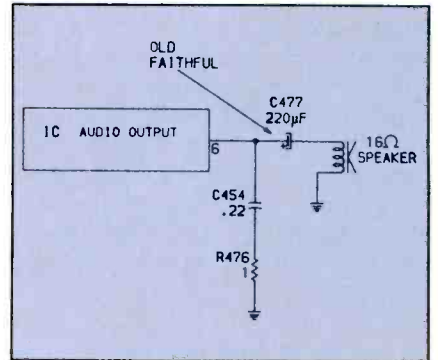

Figure 10. Use of an external speaker in series with a 50μF capacitor clipped across the speaker leads may reveal a defective coupling capacitor.
The audio signal may be traced with the external audio amp or speaker. Another permanent-magnet (PM) speaker with a 50µF capacitor soldered to it may be used as the sound indicator. Any type of PM speaker may be used here as the impedance and size is not important for the purpose of this test. Clip one speaker lead to chassis ground and touch the other end of the capacitor to the IC audio output pin (Figure 10).